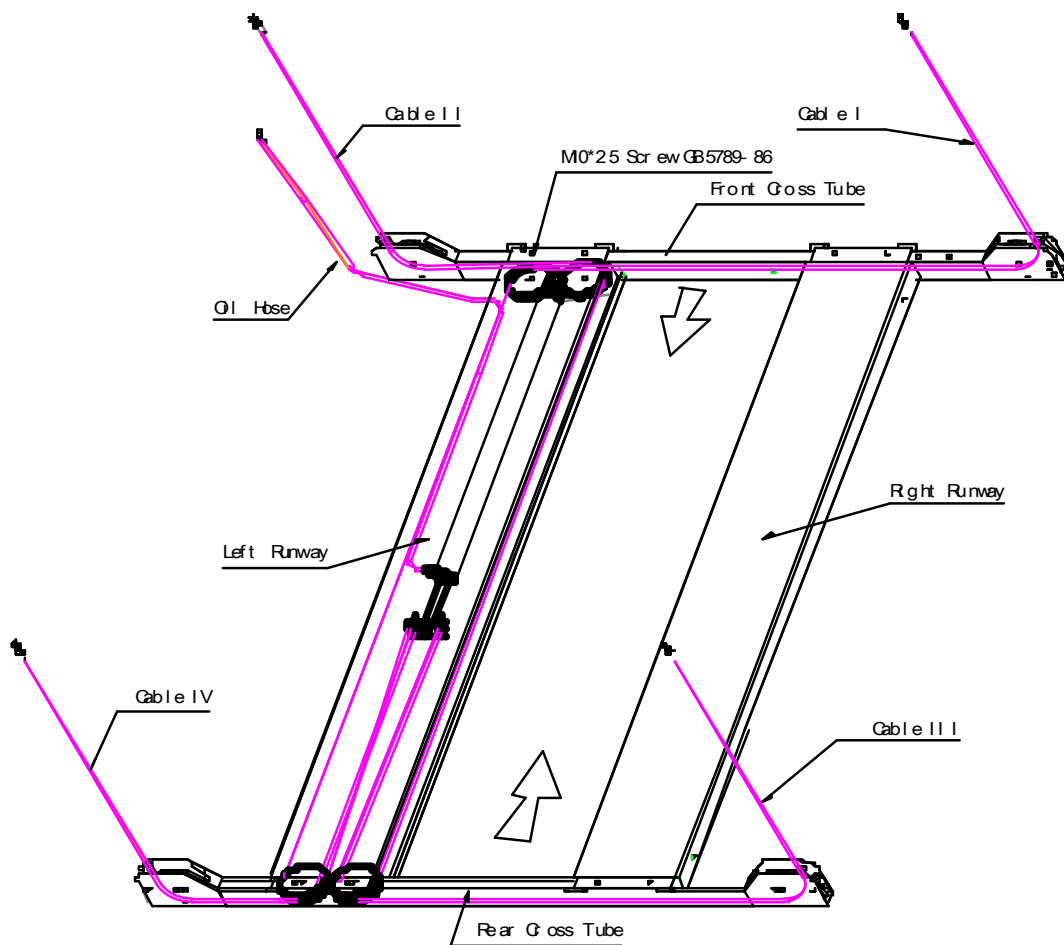
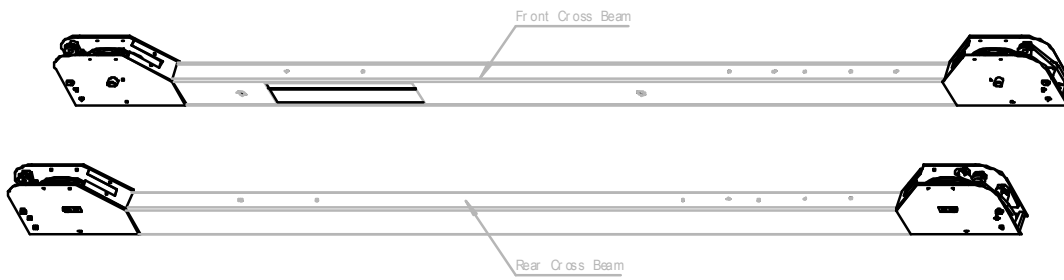

Fig.7
Fig.8
- Position front and rear cross tubes at respective ends of runway (see Fig.7 and Fig.8). The opening in the side of the tubes should be lined up with the cable sheaves in the runway ends. Feed cable ends through tube opening and do not assemble the sheaves in the cross tube ends at this time. Be sure cables are not crossed inside tube.